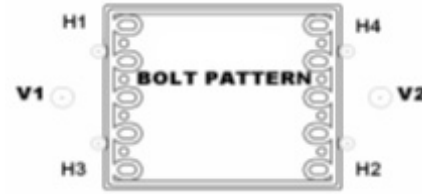

Figure 1
8. Figure 1 illustrates the bolt patterns for the two holder types: TangenX™ PRO 4-bolt horizontal cassette holder is designated by letters H1 through H4.
Wait 5-10 minutes and allow the gaskets to relax before re-torquing. Check each nut, per the Figure 1 sequence, using the torque wrench at its set point torque value (see step 7 above).